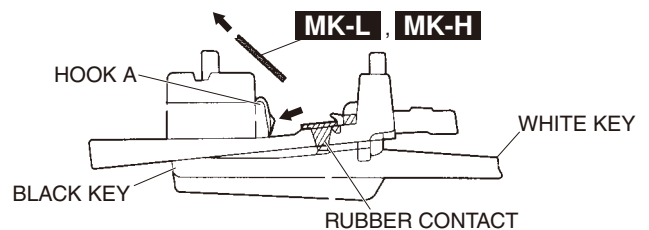

Fig. 12
- 20-4-2. Remove the MK-L circuit board while pressing the eight (8) hooks A in the direction of the arrow. (Fig. 12)
- 20-5-1. Remove the MK-H circuit board while pressing the seven (7) hooks A in the direction of the arrow. (Fig. 12)
- 20-6-1. Remove the rubber contact. (Fig. 12) (Photo 2)